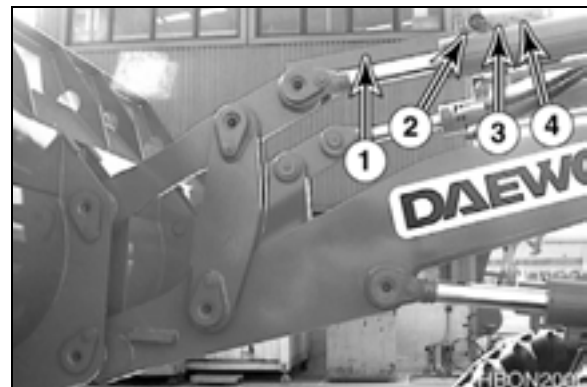

Figure 42
3. Loosen bolts (4, Figure 42) on bracket (3).
4. Position bracket (3, Figure 42) so that end point of arm (1) is aligned with center of magnetic switch (2).
5. Tighten bolts (4, Figure 42).
6. Start engine. Raise boom, dump bucket, then move bucket lever into crowd detent position. Now lower boom and check to see that bucket has stopped at required position. A small readjustment of bracket (2, Figure 42) may be necessary.